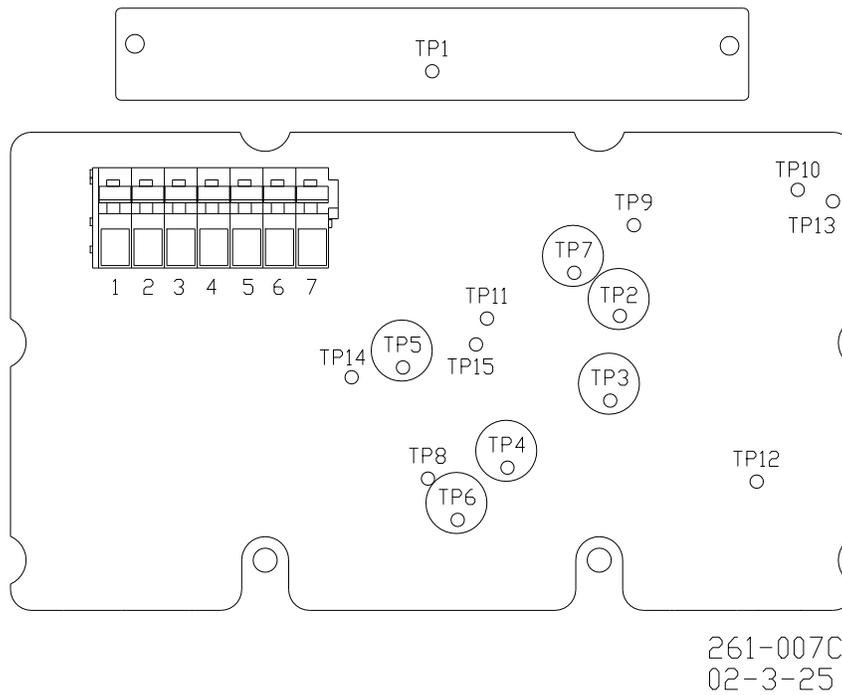

Figure 4-1. Printed Circuit Board
Setup and calibration are provided through test points located on the printed circuit board (see Figure 4-1).
To enter the User Calibration mode, the unit must be shut down and the appropriate jumpers must be connected. To set output shaft direction (CW/CCW) and throttle position sensor (TPS) output polarity, connect the test points in accordance with the following table. Refer to Figure 4-1 for test point (TP) locations.
To enable the calibration routine, connect a jumper from TP3 to TP6 for 0–200 mA/PWM input or TP3–TP4 for 4–20 mA input. Connect additional test points as necessary to change the output shaft direction and TPS polarity—see Table 7-1. See Figure 4-1 for test point locations. When power is applied to the unit, the microprocessor will enter the calibration routine. The output shaft will sweep slowly from stop to stop in order to find the end points, and then return to the mid position. It is not necessary to apply an input signal during this time as the microprocessor assumes 0.5 to 4.5 V as its input. When the calibration is complete, turn off the power, disconnect all jumpers, and make sure that the input signal is applied. When power is reapplied the unit will be in the operate mode.